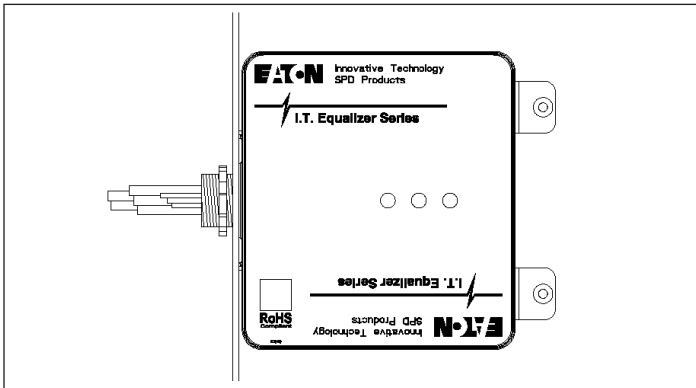

Figure 2. Preferred Installation.
**AVOID USING 90° CONDUIT ELBOWS AND KEEP THE CONDUIT RUN AS SHORT AND STRAIGHT AS POSSIBLE. SEE FIGURES 2 AND 3.**
**TO ENSURE MAXIMUM EFFECTIVENESS AND PROVIDE THE BEST POSSIBLE PROTECTION FOR SENSITIVE ELECTRICAL EQUIPMENT, MOUNT IN SUCH A WAY AS TO MINIMIZE THE CABLE LENGTH AND ELIMINATE ANY SHARP BENDS IN THE WIRING CONDUIT. SEE FIGURE 2.**